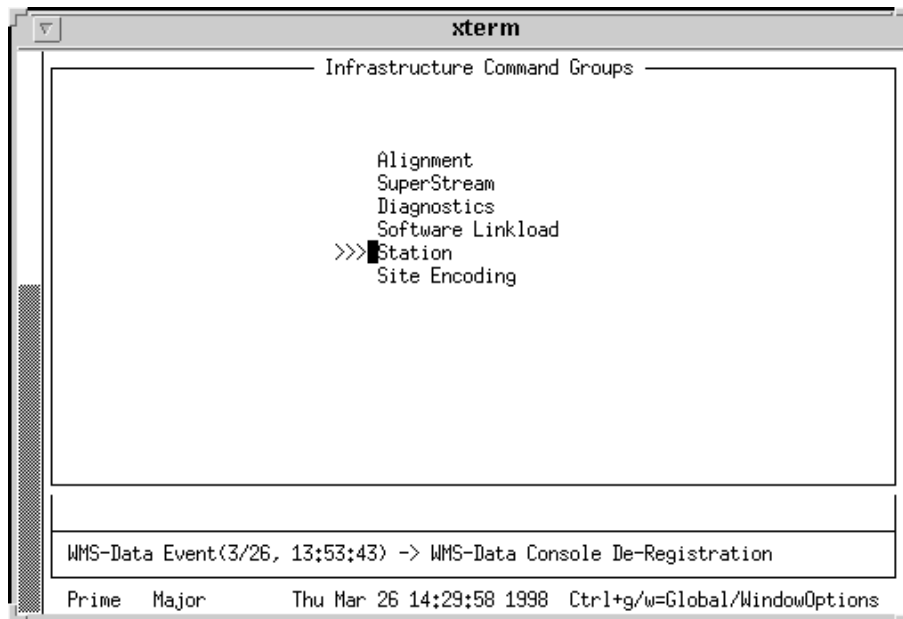

Figure 6-12: Infrastructure Command Groups—Select Station Command
1. From the Infrastructure Command Groups menu, use the <tab> to position the cursor to the left of the listing Station and press: <Return> (see Figure 6-12).